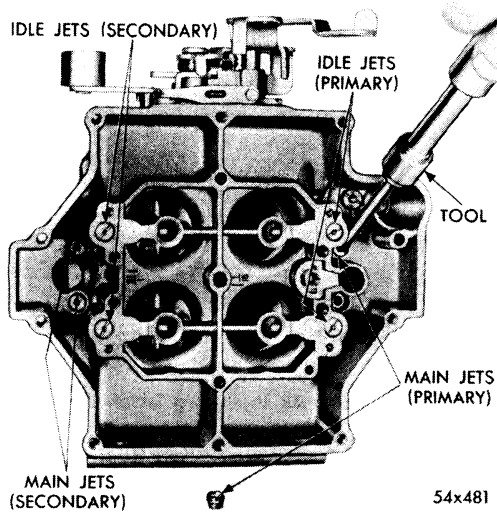
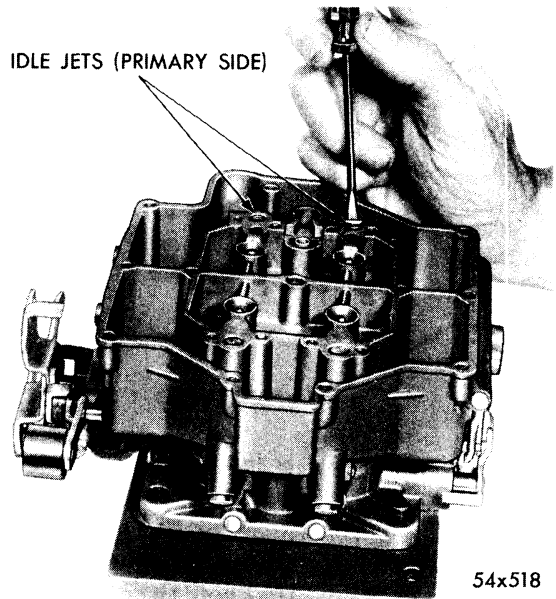
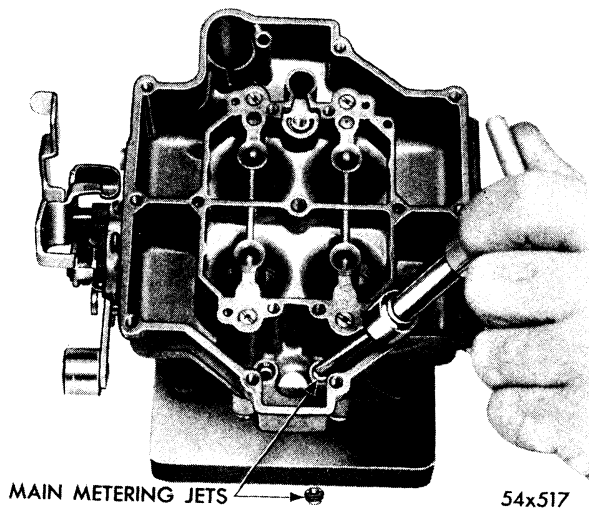

Fig. 24—Removing or Installing Main Metering Jets (Primary Side)
Fig. 26—Removing or Installing Idle Jets (Primary Side)
Fig. 25—Removing or Installing Main Metering Jets (Secondary Side)
- (4) Using Tool T-109-58, remove the main metering jets (primary side), as shown in Figure 24. **The primary and secondary main metering jets are not interchangeable.**
- (5) It is very important at reassembly, that these jets be installed in their respective positions in the carburetor main body.
- (6) Again, using Tool T-109-58, remove the main metering jets (secondary side), as shown in Figure 25.
- (7) Using a wide blade screwdriver, remove the two fuel sight plugs from the carburetor main body. **This need be done, only if screwdriver slots are damaged or a leak is indicated.**
- (8) Using Tool T-109-58, remove the idle jets (primary side), as shown in Figure 26.
(secondary) in the bottom of main body. Tighten securely, using Tool T-109-58. (See Fig. 25.) Install the main jets (primary) in the bottom of main body. Tighten securely, using Tool T-109-58. (See Fig. 24. (Install the vacuumer piston spring in the piston well. (See Fig. 22.)